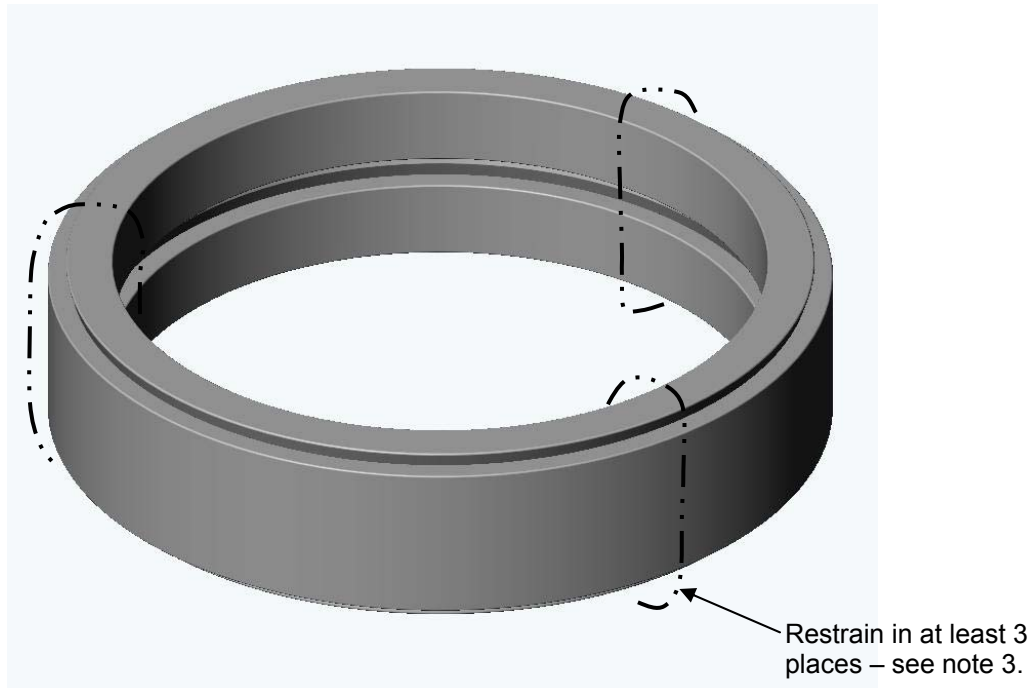

Figure 2 – Seized Ringfeder Spring Assembly
3. The spring disassembly process **MUST** start by adequately restraining the ring assembly to prevent the loose parts from becoming projectiles when the stored energy is released. This usually cannot be performed until the rings are separated from the quill, and may be accomplished by loosely wrapping the ring assembly in at least three places around its circumference using rope, slings, light chains or clamps (see figure 2). Disassembly should take place in a location removed from other personnel or critical equipment.